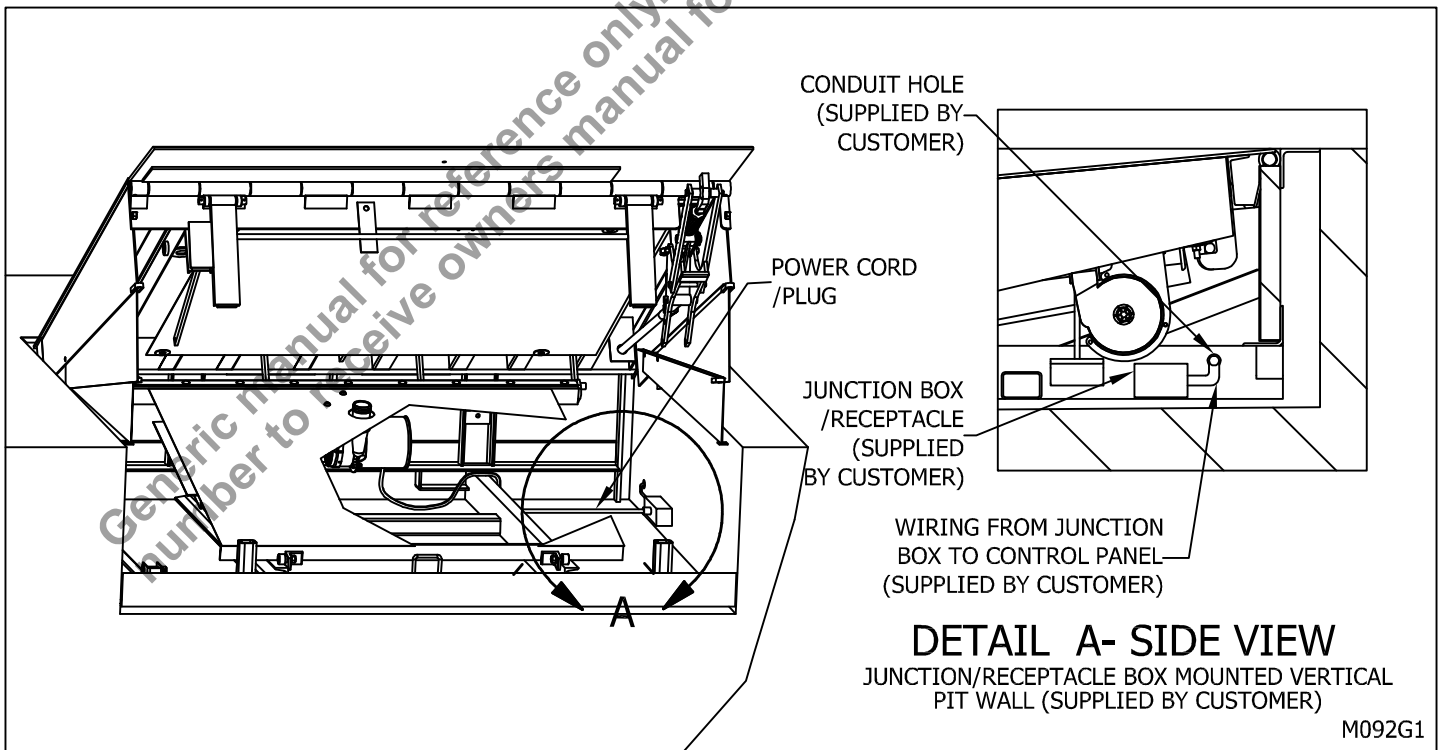
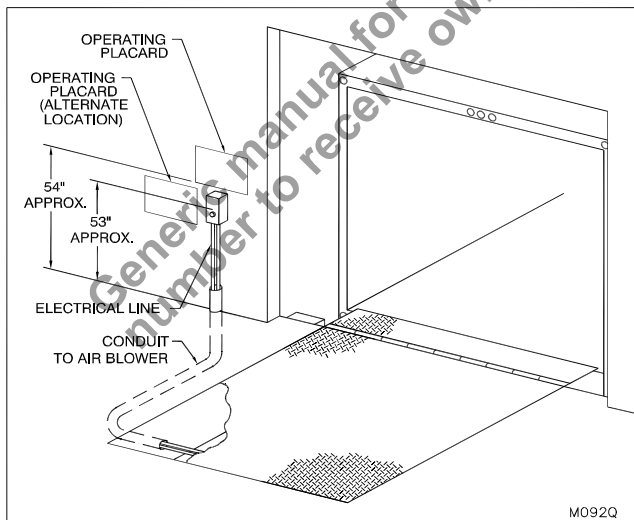

Figure 7b: Power Cord & Junction Box
Figure 8: Control Panel & Placard Location
NOTE: The power cord & plug assembly supplied with the dock leveler is intended to be used for raising the deck for the initial installation only. Once the maintenance stand is in position, the supplied power cord & plug assembly is to be altered as follows. Permanent wiring must be installed immediately. Install the junction box with a standard 115/1/60 female receptacle in the dock leveler pit as per “Figure 7b: Power Cord & Junction Box” on page 12. Use the provided power cord running from the blower assembly to connect the blower to the junction box. Route the power cord so that it does not come in the path of any of the moving parts of the dock leveler. Once the power cord is properly routed to the junction box, cut any access off and reinstall the supplied 115/1/60 plug that was provided on the cord. Discard the access material that was cut off. Run the appropriate electrical wires from the control panel to the receptacle box through the conduit. (see “Figure 8: Control Panel & Placard Location” on page 14).
8. ___ Mount the control panel and the supplied instruction placard in an appropriate location. ("Figure 8: Control Panel & Placard Location" on page 14).
9. ___ Locate a junction box with a standard 115/1/60 female receptacle (supplied by customer) on the vertical pit wall with the top of box lower than the conduit hole and horizontally between the conduit hole and pit floor (see "Figure 7b: Power Cord & Junction Box" on page 12).
22. ___ Mount the control panel and supplied instruction placard in an appropriate location. ("Figure 8: Control Panel & Placard Location" on page 14)